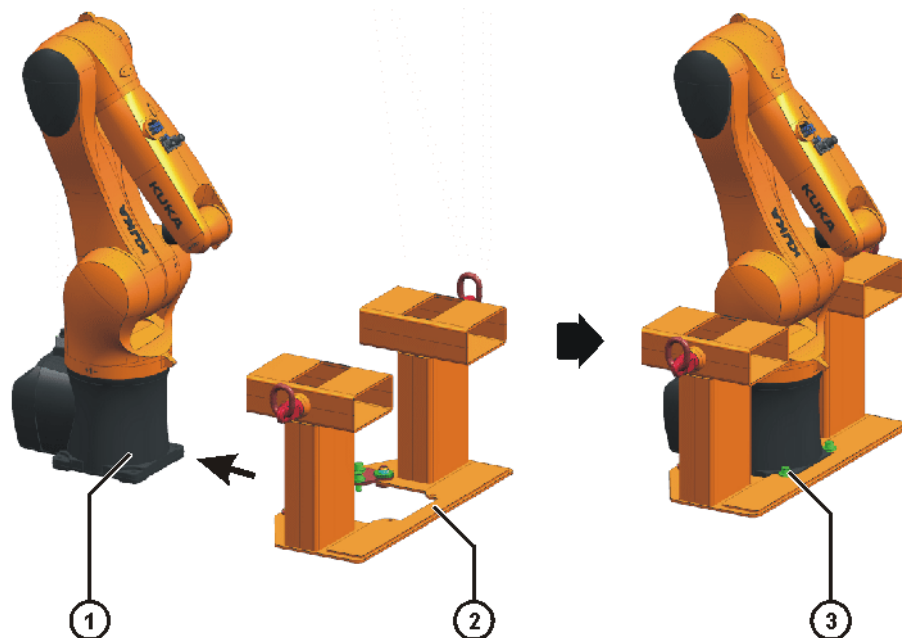

Fig. 8-10: Pushing on the Load Lifting Attachment and fastening it at the front
2. Carefully push the Load Lifting Attachment onto the base frame of the robot from the front (>>> Fig. 8-10).